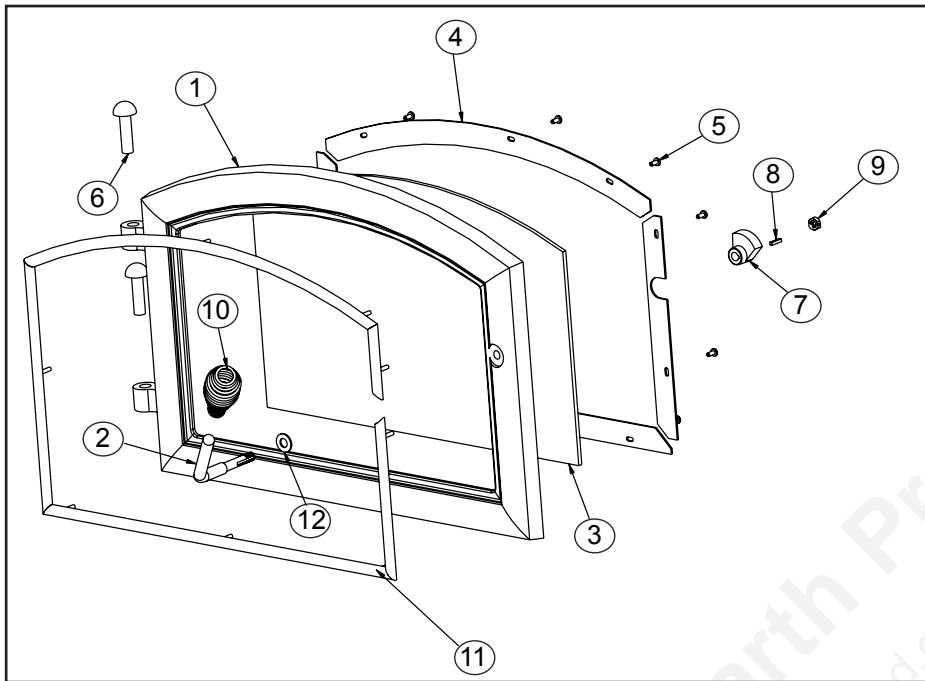

**FIGURE 20A - Allen wrench on retainer bolt**
2. With a 3/16" allen wrench, remove the 2 front secondary combustion tube retainer bolts on the secondary air channel under the end of the front tubes. **See Figure 20A.** NOTE: Soak the bolts with penetrating oil for at least 15 minutes before trying to remove them.